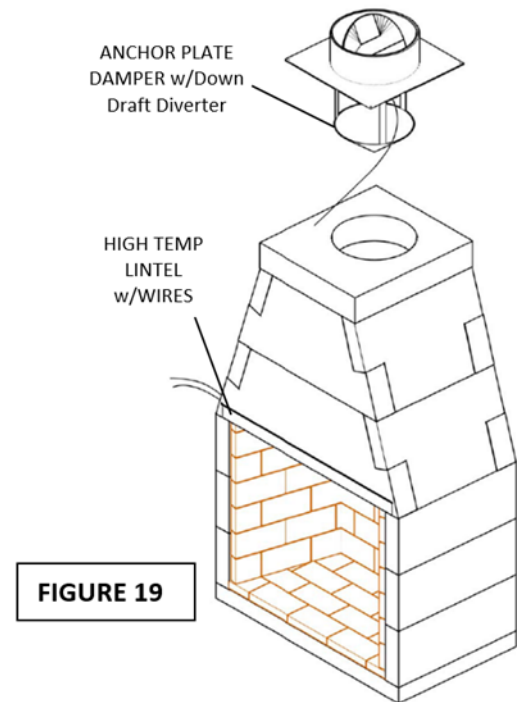

FIGURE 19
- Install downdraft diverter at the top plate. (Figure 19)
- The high temp lintel fits horizontally up toward the bottom of the smoke dome. The adjoining short leg of the high temp lintel fits up against the bottom of the smoke dome component. (Figure 19)